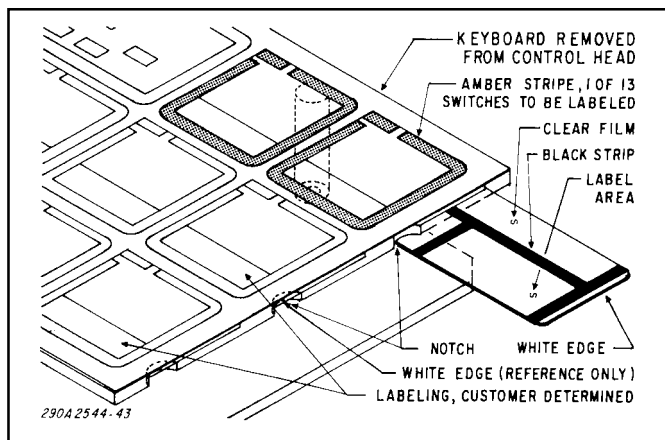

Figure 3-12. Replaceable Function Labels.
C. Place the keyboard assembly on the work surface face down. See figure 3-12. Using a small longnose pliers or tweezers, carefully grasp the white edge of the top legend strip and slide the strip out of the keyboard.
D. Select the appropriate labels from the supplied sheets of function legends. Peel the labels from the sheets and apply to the legend strip in the area provided as shown in figure 3-12. Slide the legend strip back into the keyboard.